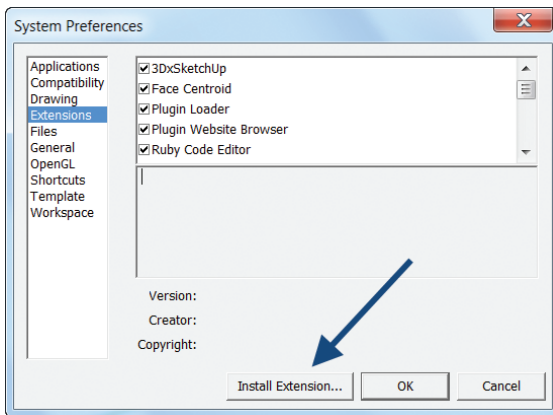

Figure 4.1: The new "Install Extension . . ." button.
- **RBZ file**—This is a new file format that was introduced in SketchUp's Version 8 Maintenance Release 2. If you are running an older version of SketchUp, consider upgrading (it's worth it!) or look for a ZIP version of the plugin. If you have the latest version of SketchUp, then all you need to do is go to the Extensions tab in the Preferences window (see **Figure 4.1**). There you will find a small button labeled "Install Extension. . ." Click that button, browse to the RBZ file, and okay any confirmation dialogs that come up. SketchUp will install this plugin for you, and you don't even have to browse to the Plugins folder. As mentioned before, this method also works with ZIP files.